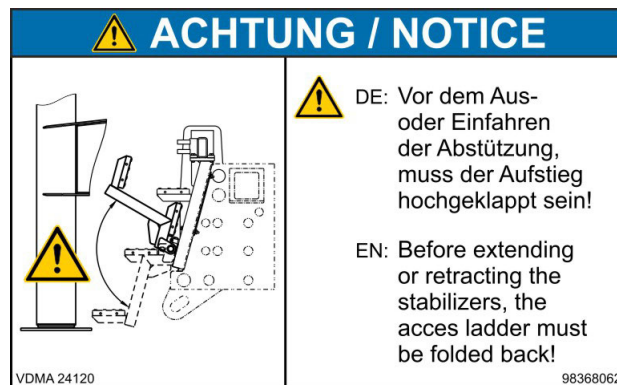

Fig. 51 Folding steps
- Move all foldable equipment (e.g. steps, (Fig. 51 Folding steps)) into the transport position.